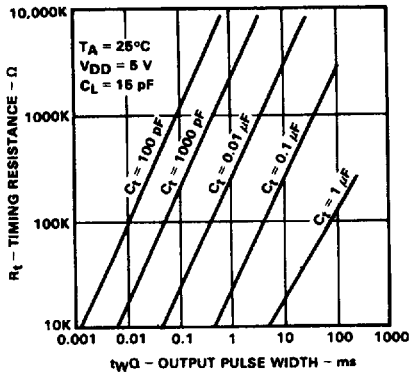
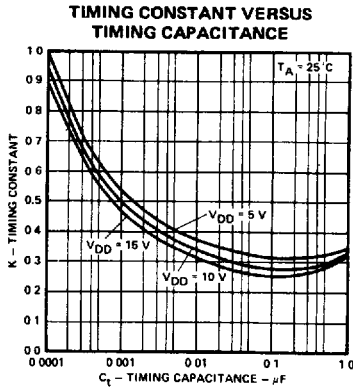

FIGURE 1.
Fig. 3.
3. Polarized capacitors may be used directly. The (+) terminal of a polarized capacitor is connected to pin 2 (14) and the (-) terminal to pin 1 (15). Pin 2 (14) will remain positive with respect to pin 1 (15).
4. The output pulse width can be determined from the pulse width versus C_t or R_t graphs (Figures 1 and 2).
The first step is to choose a capacitor. Figure 1 shows pulse width versus resistor value with the capacitor value as the running parameter. A capacitor value is chosen so that the approximate resistor value is between 20 kΩ and 2 MΩ. Once the capacitor is determined, the timing constant (K) is found from Figure 3 for a specific V_{DD} . The resistor value is then determined from Equation 2. If the resistor value is less than 20 kΩ the timing constant should be increased by 20% and the resistor value re-calculated. The resistor must be larger than 5 kΩ.
From Figure 1 a capacitor value between 0.01 and .1 μF would be reasonable. A 0.022 μF capacitor is the only capacitor that is available.
The timing constant for a 0.022 μF at 10 V V_{DD} is found from Figure 3 to be approximately 0.3.